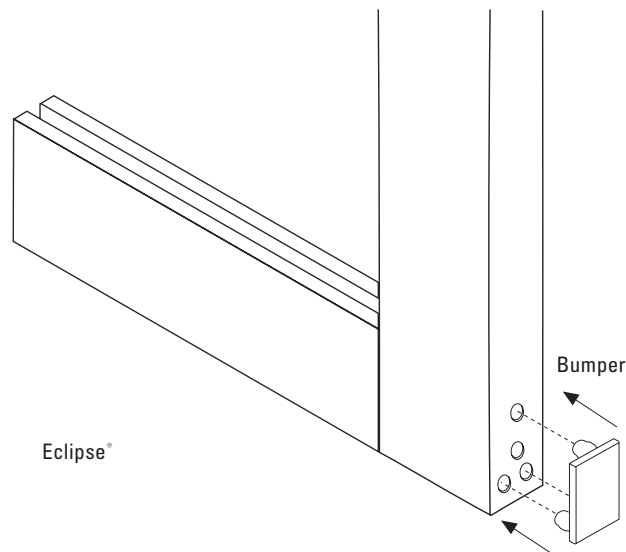

Figure 8
B. For **Eclipse®**, insert the top and bottom Bumpers by aligning the holes and firmly pressing them into place (See **Figure 8**).